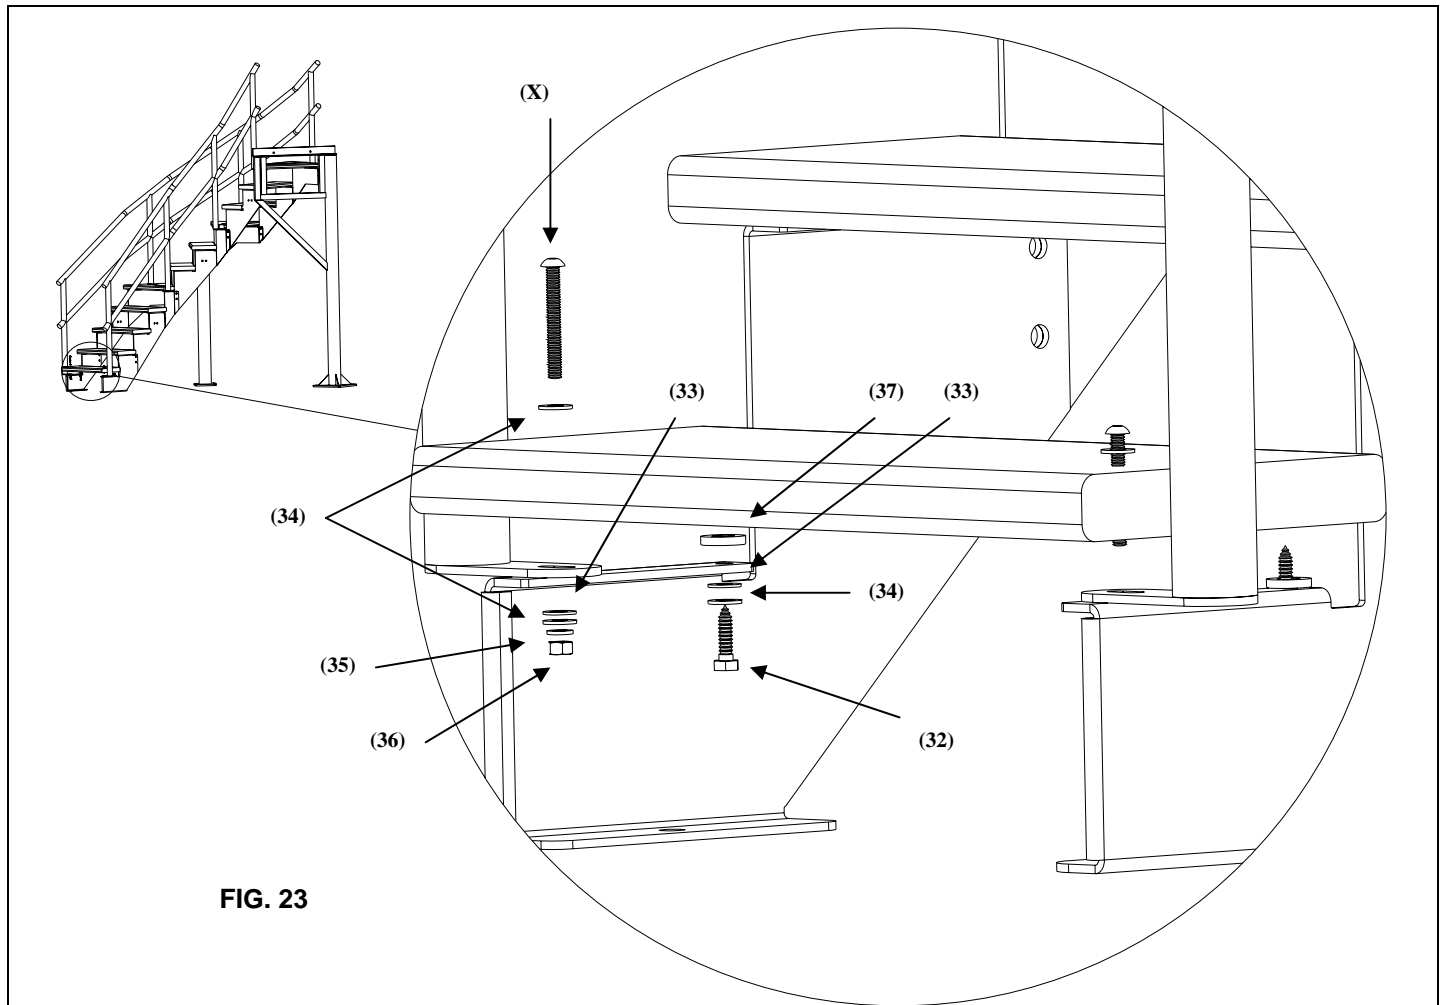

FIG. 23
6) Install the stair treads on all steps where the handrail brackets will not be attached. The handrail brackets are installed on the following steps, starting from the bottom: 1, 5, 8, and 11. Beginning at the top, align the pre-drilled holes in the stair treads with the holes on each side of the stair brackets, as shown in Figure 23. Use the following hardware to attach the stair treads to the brackets: 5/16" x 1.25" Hex Head Lag Screw (32), 5/16" Flat Washer (34), and a 5/16" Nylon Washer (33).
For the treads where a handrail bracket is attached, you will also need to add a 3/16" Spacer (37) between the bracket and the step as shown in Figure 23. You will need to assemble the handrails to the stairs before assembling the rest of the stair treads.